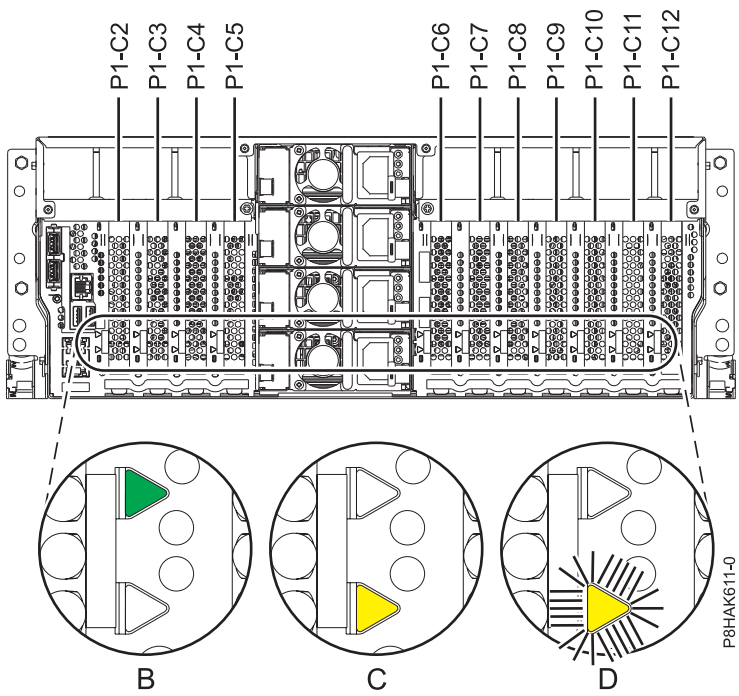
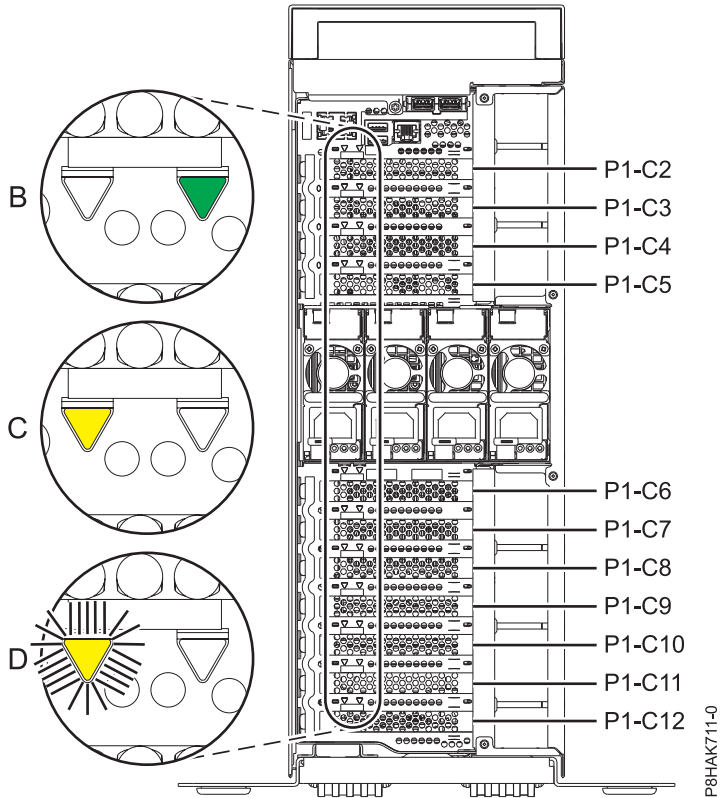

Figure 48. PCIe adapter slot locations and locations of the LEDs in a rack-mounted system
Figure 49. PCIe adapter slot locations and locations of the LEDs in a stand-alone 8286-41A system
If you are servicing a failed PCIe adapter, look for the flashing amber LED for the failed PCIe adapter that you set to flash in the step to identify the failed part. See Figure 48 on page 52 and Figure 49 on page 52 that show the state of the LEDs. Note that the amber LED for the failed PCIe adapter is **Flashing**, as shown in **(D)** in Figure 48 on page 52 and Figure 49 on page 52.
**Attention:** If the PCIe adapter is operating correctly then the Activity LED is **ON** (green) and the Error amber LED is **OFF**, as shown in **(B)** in Figure 48 on page 52 and Figure 49 on page 52. Do not attempt to remove the working PCIe adapter.